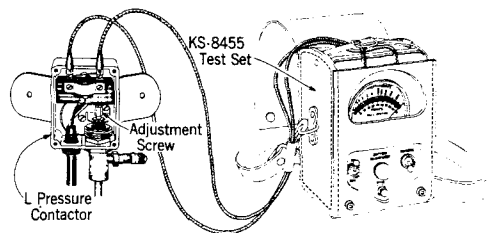
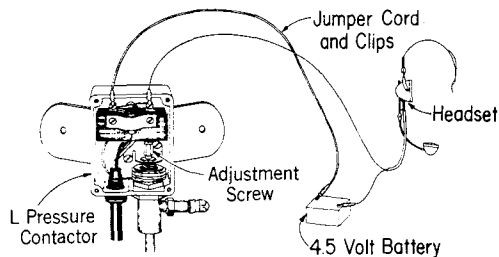

Fig. 15—Test Arrangement Using KS-8455 Test Set
Fig. 16—Test Arrangement Using Battery and Headset
(4) Connect a KS-8455 test set, using the ohmmeter circuit, to the binding posts of the Micro-Switch, as shown in Fig. 15, or a 4.5-volt battery and a headset as shown in Fig. 16. Operation of the contactor is indicated by full-scale deflection of the test set needle, or by an audible click in the headset.